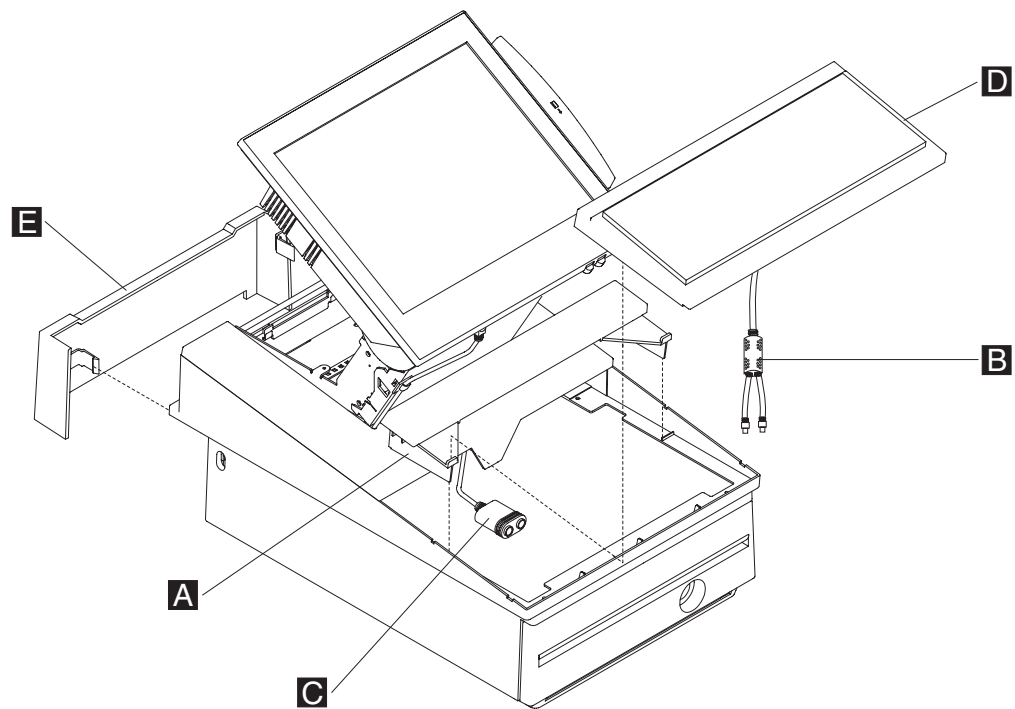

Figure 46. Removing the keyboard onto the integration tray
- a. Remove the keyboard **D** by lifting the keyboard up and off the keyboard integration tray, as shown in Figure 46.
- a. Unplug the Y-cable **C** from the SurePOS 500/600 front connector panel keyboard/mouse connector, as show in Figure 46. See “Connecting cables to the front panel” on page 36 for keyboard/mouse connector location on the SurePOS 500/600.